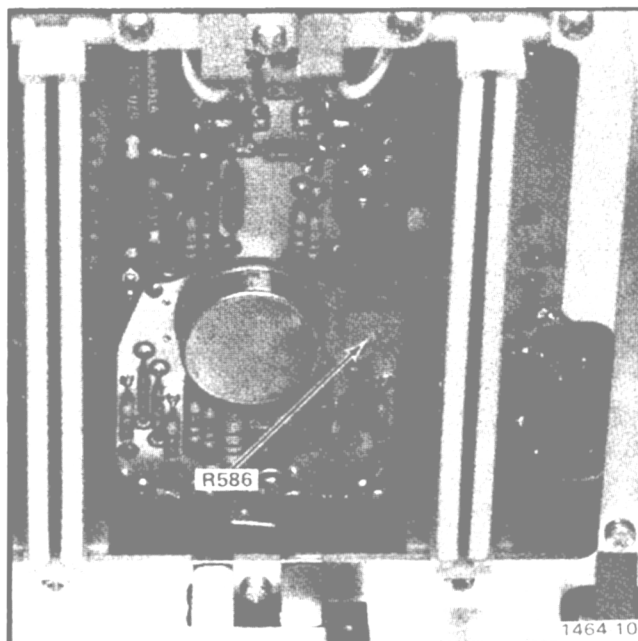

Fig. 2-5B. Location of Trigger Selector adjustments (SN B130524-below).
- g. ADJUST—(SN B130524-below) Trigger DC Centering, R586, for a display dc level within 0.5 division (25 millivolts) of ground reference level in the LEFT, RIGHT, and ADD positions of the VERT MODE switch. See Fig. 2-5B for adjustment location.